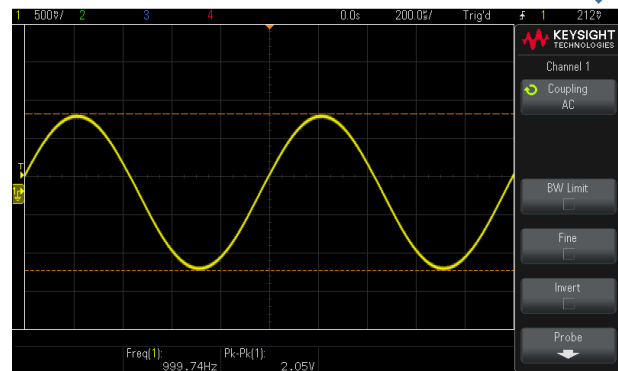

Figure 9 – Properly Triggered Signal
- Adjusting the trigger knob defines where on the wave to trigger (on the way up or the way down), as illustrated below, until the wave becomes stable (see **Figure 9**).